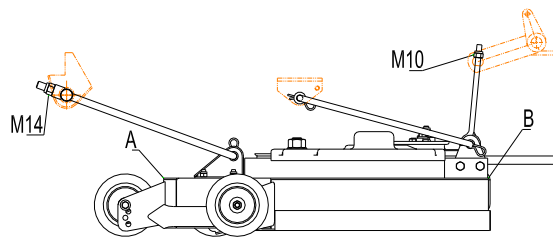

FIG 7
- e) See FIG 7. Position A is located in middle front of the mower deck. Position B is located behind the mower deck on each side.